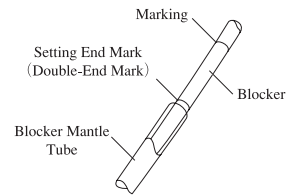

Fig.2
- m) When pushing the blocker tip out of the endotracheal tube pocket, be sure to grip the blocker shaft near the blocker mantle tube (the area between the setting end mark and the first depth marking, as shown in Fig.2). Otherwise it may kink or break the blocker shaft.